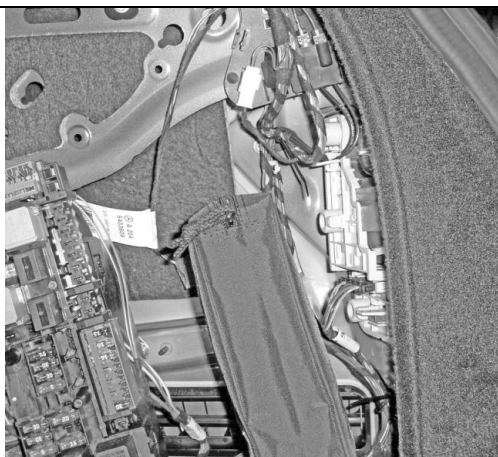

Figure 7 – Remove lights.
7. Remove the lights, by removing nuts x 4, as shown in Figure 7.